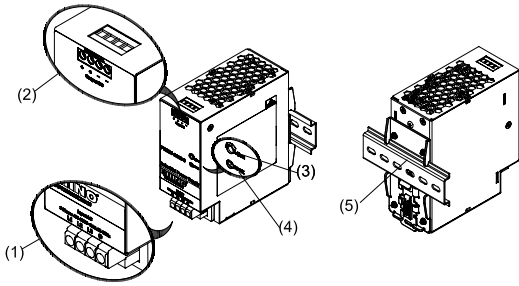

Figure 1
2. Device description (Fig. 1)
5.1. Input connection (Fig. 1, Fig. 5)
5.2. Output Connection (Fig. 1 (2))
Use the "+" and "-" screw connections to establish the 24 VDC connection. The output provides 24 VDC. The output voltage can be adjusted from 24 to 28 VDC on the potentiometer. The green LED DC OK displays correct function of the output (Fig. 1 (4)). The device has a short circuit and overload protection and an over-voltage protection limited to 35 VDC.